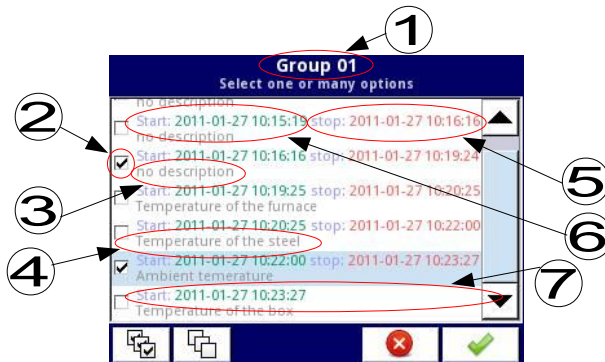

Fig. 7.18. A sample view of selected logged files from Group 1
**Fig. 7.18** presents a sample view of selected logged files from Group 1. The numbers refer to:
- (1) - group number,
- (2) - selected logged file,
- (3) - no description of the logged file,
- (4) - description defined by the user (a description of the logged file is defined in the Groups menu - see **Chapter 7.14.2. Groups - Logging options**)
- (5) - date and time of the end of the logged data file,
- (6) - date and time of the start of the logged data file,
- (7) - date and time of the start of the logged data file whose logging has not yet ended.